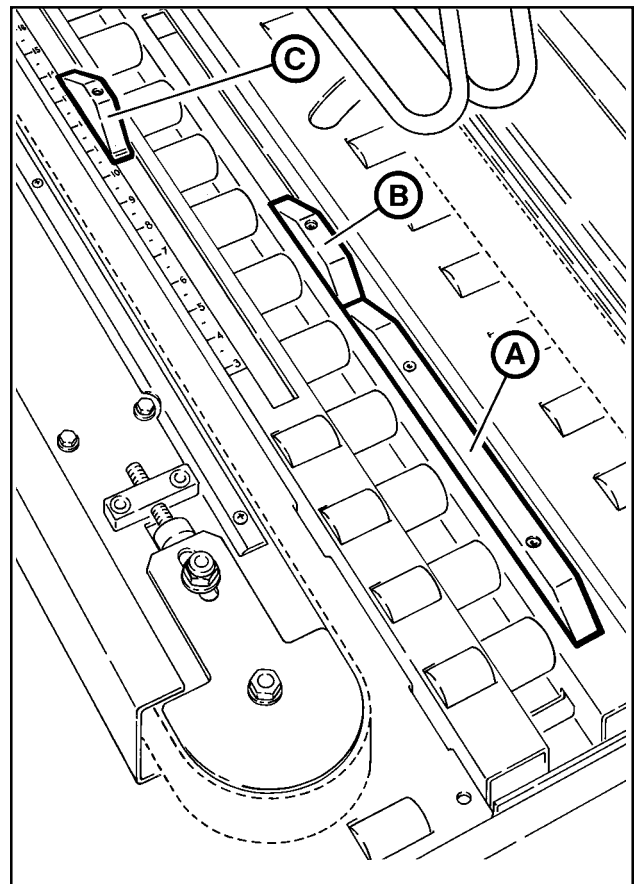

Figure 3-4 – Gate/Kicker Cams
- ⑨ **Gate Cams** Figure 3-4
- ⑩ **Kicker Cam** Figure 3-4